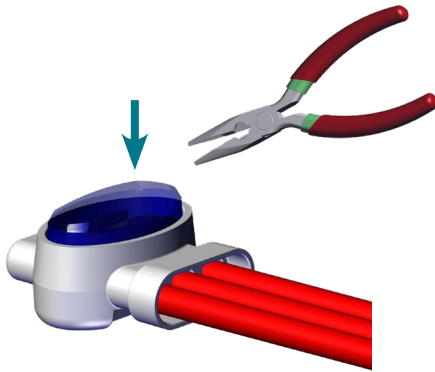

Figure 6a. Depress the scotchlok plunger to fully secure the conductors
2. Using pliers, firmly press the oval "plunger" to secure the wires (Figures 6a, 6b). These are single use connectors; once the plunger has been depressed the connector must be replaced if there is a problem with the connection.